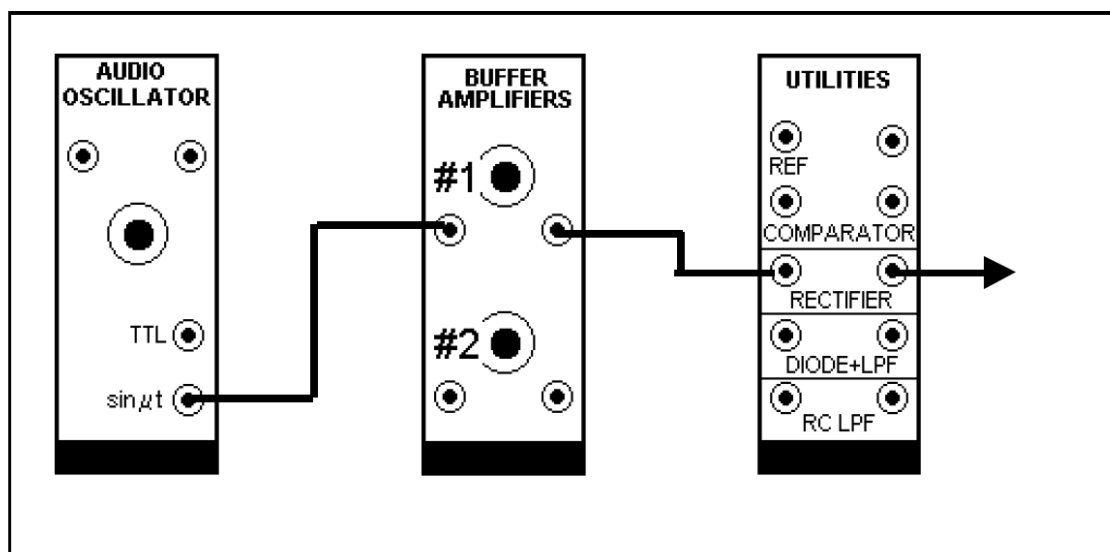

Figure 5: Task 5 — Rectifier
1. Repeat the above task with the HALFWAVE RECTIFIER in the UTILITIES module and patch up the modules according to Figure 5. Show that this system satisfies the homogeneity test over part of the input range (i.e., where the range excludes the zero input point). [Marks: 1/2]